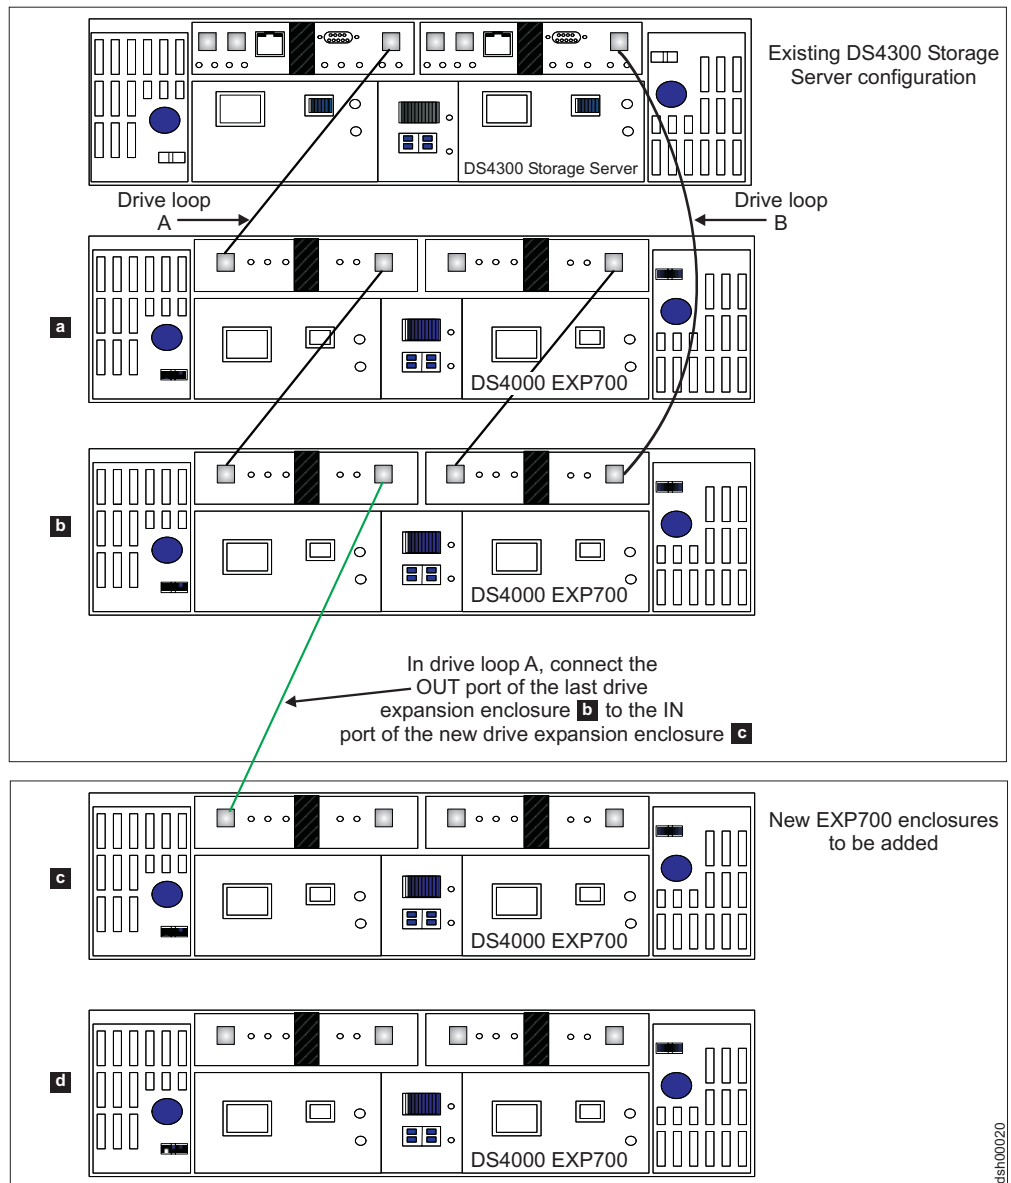
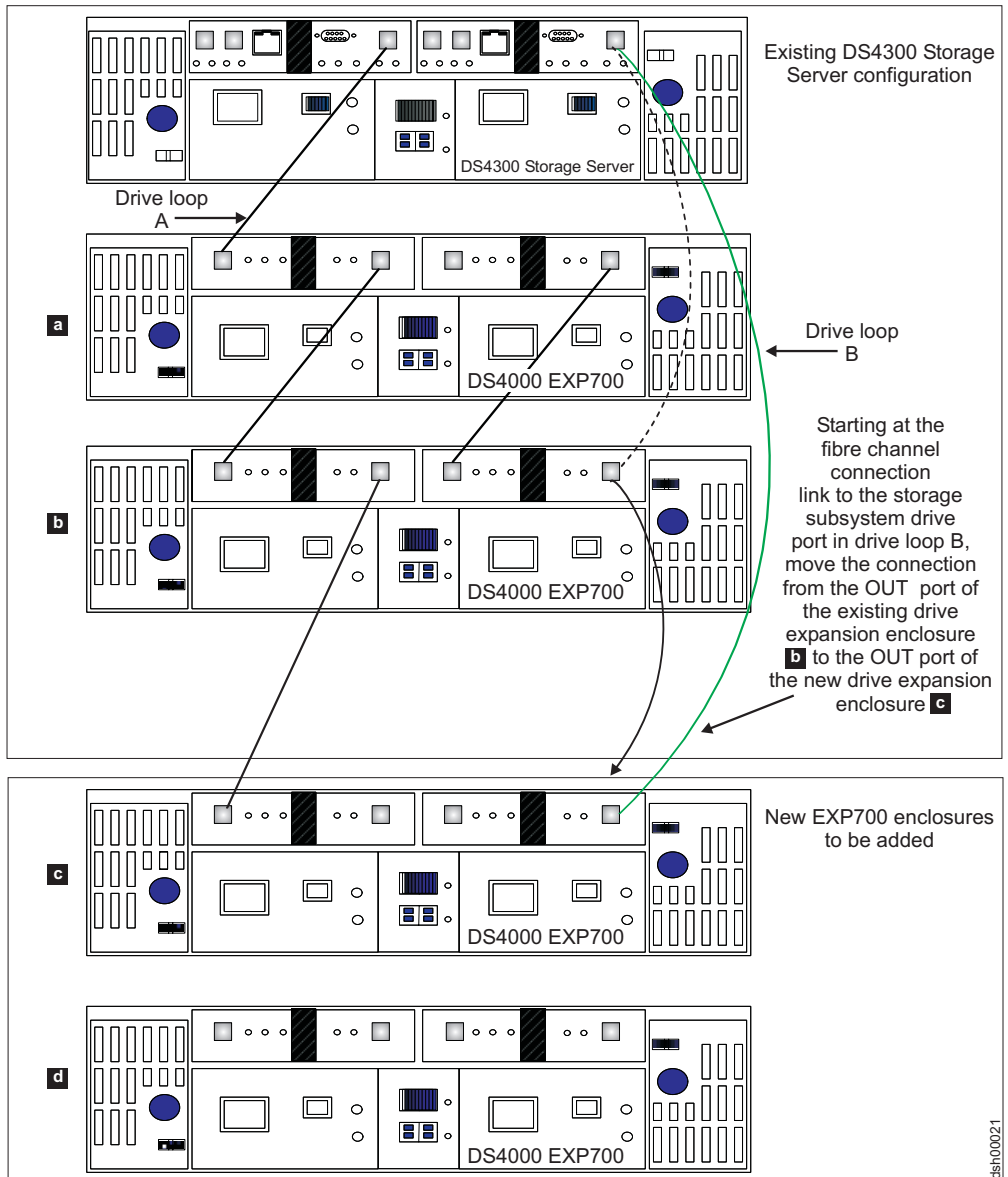
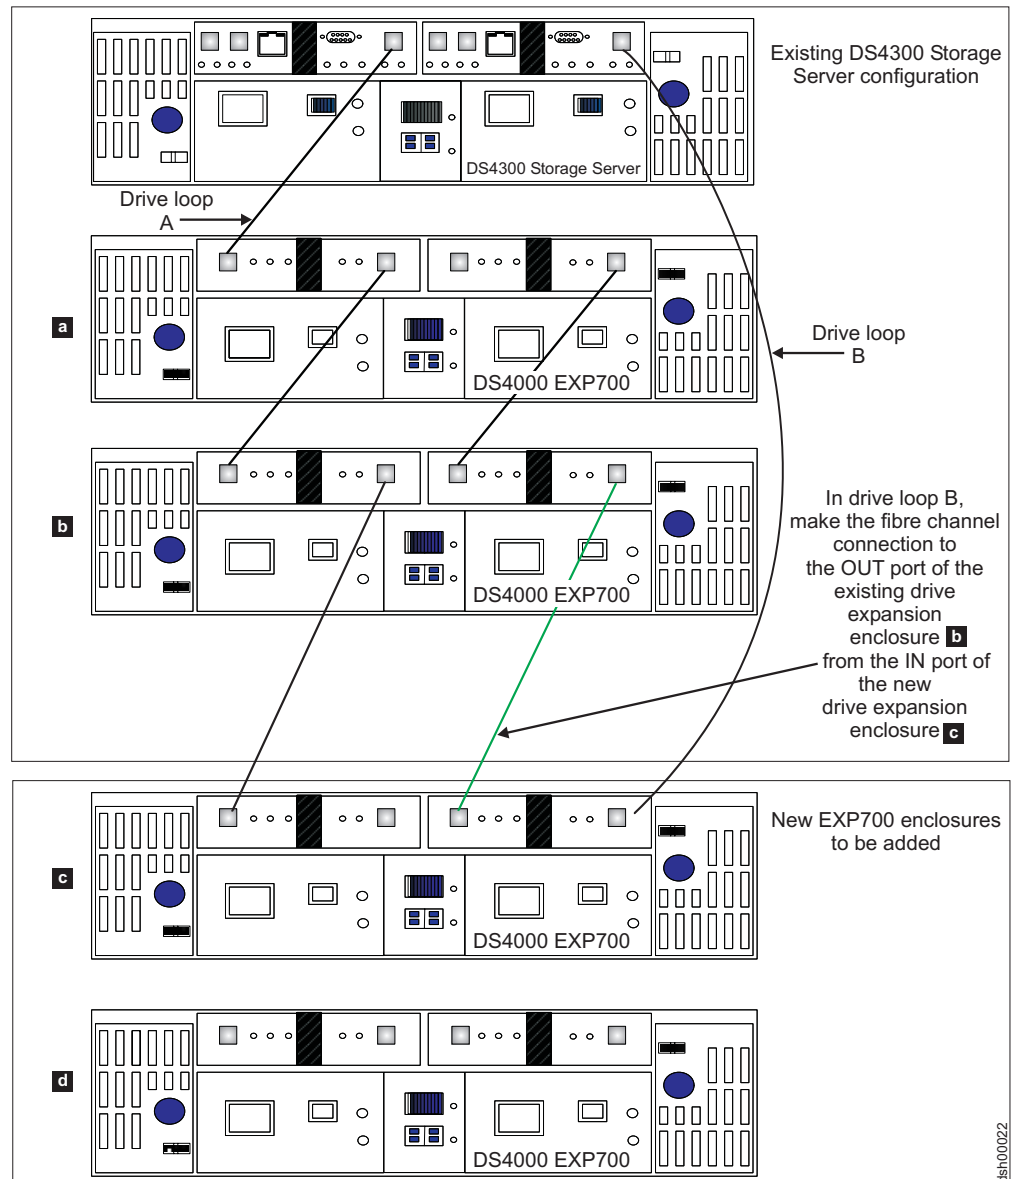

Figure 38. Cabling a single drive enclosure to the end of a functioning drive loop (step 1 of 3)
Figure 39. Cabling a single drive enclosure to the end of a functioning drive loop (step 2 of 3)
Figure 40. Cabling a single drive enclosure to the end of a functioning drive loop (step 3 of 3)
The cabling instructions illustrated in Figure 38 on page 101, Figure 39 on page 102, and Figure 40 on page 103 describe cabling a DS4000 EXP700 Storage Expansion Enclosure to the end (bottom) of a redundant drive loop of a functioning DS4300 Storage Subsystem (model 60X or 60U). Again, IBM recommends that you add storage expansion enclosures to an existing drive loops only in this manner.
- ___ Step 2. Extend one of the drive loops (that is, drive loop A) in a DS4000 Storage Subsystem redundant drive loop pair by connecting the OUT port of the last storage expansion enclosure to the IN port of the new storage expansion enclosure as shown in Figure 38 on page 101.
expansion enclosure and connect it to the OUT port of the new drive enclosure as shown in Figure 39 on page 102.
- ___ Step 7. In drive loop B, cable the new drive enclosure's IN port to the OUT port of the last enclosure in the already functioning storage expansion enclosure drive loop as shown in Figure 40 on page 103.